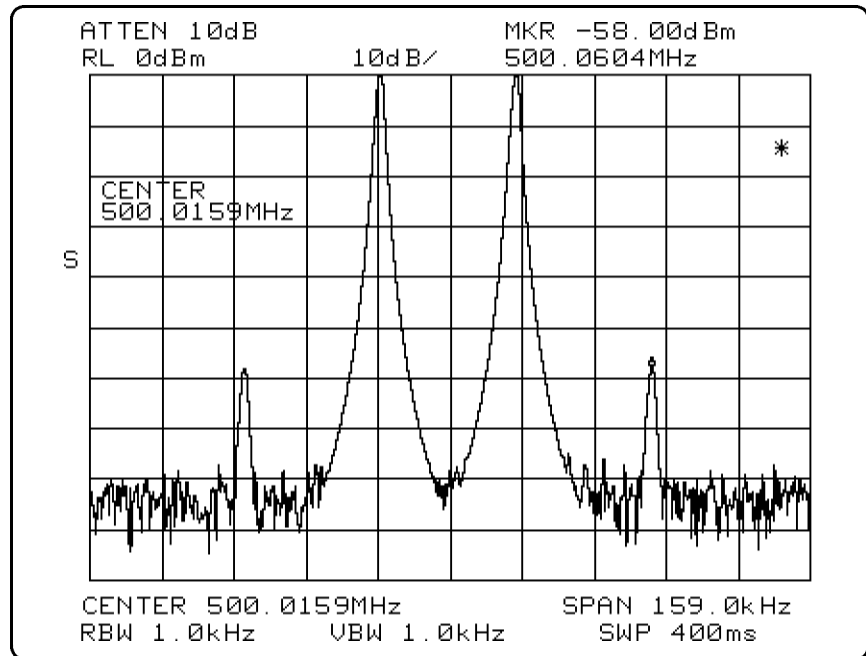

Figure 2-2. Typical TOI/IMD Measurement Spectrum Display
- Adjust the analyzer so that the signals are visible on the display before invoking the utility. In addition, the power level of the carriers must be greater than -40 dBm. If these conditions are not met, the utility will not make the measurement. Figure 2-2 shows an example of a typical spectrum analyzer display of a third order intercept measurement.